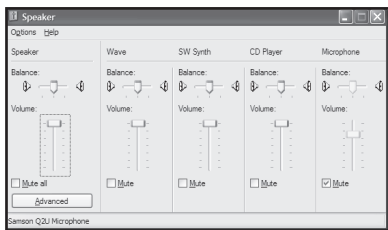

Figure 5
5. To set the direct monitoring level or the playback volume in the headphones, click the **Volume** button in the **Sound playback** section instead. Adjusting either the **Speaker** slider on the left or pushing the push-buttons on the mic changes the headphone level (figure 5). To turn off the zero-latency direct hardware monitoring (if you want to use software play-through with effects instead), click